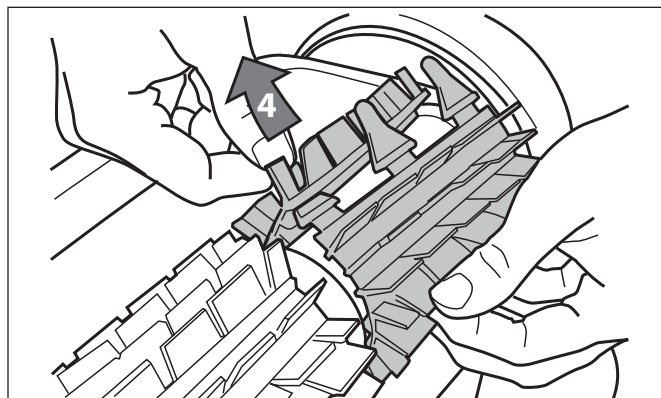

Figure 30. Pull Tabs Through Each Slot
4. Thread each tab into the slot provided and gently feed it through until the heel comes out at the other side of the slot. Refer to Figure 30.